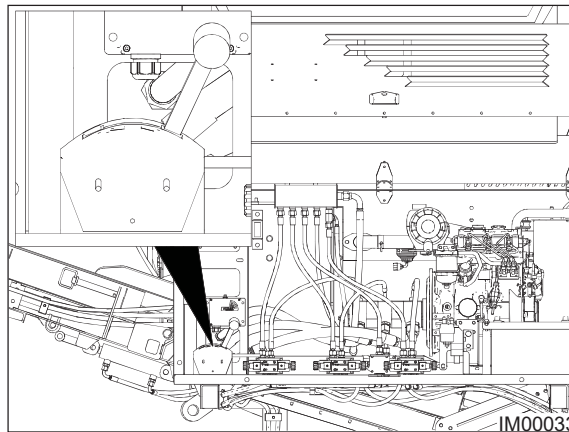

Fig: 5.1 - Throttle Lever
3. Place the throttle lever into the IDLE position (Fig: 5.1).